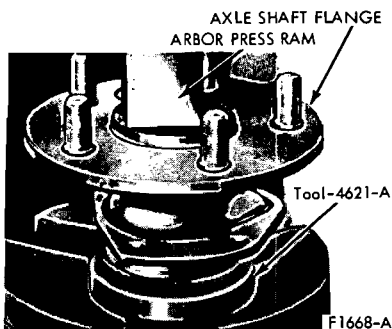

FIG. 3 Installing Rear Wheel Bearing
3. Place the bearing retainer plate on the axle shaft, and press the new wheel bearing on the shaft with the tool shown in Fig. 3. Do not attempt to press on both the bearing and the inner retainer ring at the same time.